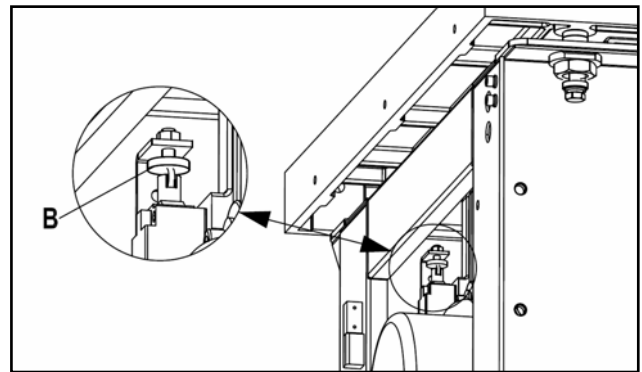

Fig.40
Adjusting screw (B), you can change the electronic stop position at 90 degree, as **Fig.40**.